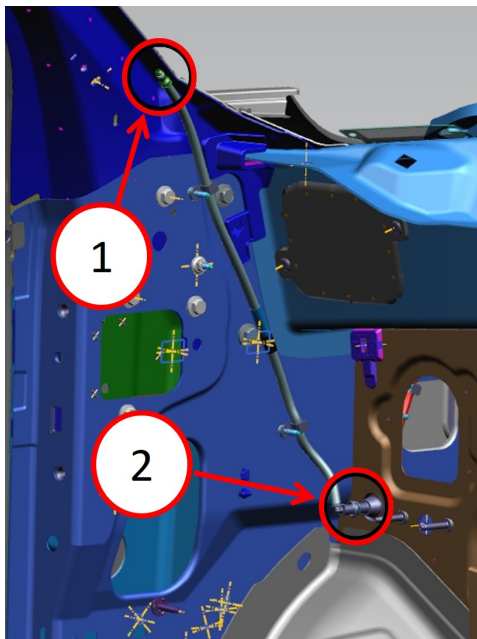

Fig. 2
4. **Inside Cabin, Driver Side Leaks (Fig. 2)** . Remove the A-Pillar trim. Refer to the detailed service procedures available in DealerCONNECT> Service Library under: Service Info>23 - Body / Interior / Panel, A-Pillar Trim / Removal.
5. Verify connection (Fig. 2) with a push-pull-push test and confirm connection is tight.
NOTE: If washer tube leak is determined to be at connection two (Left Front Carpet Connection) as shown in (Fig. 2) , contact STAR Center for repair instructions.